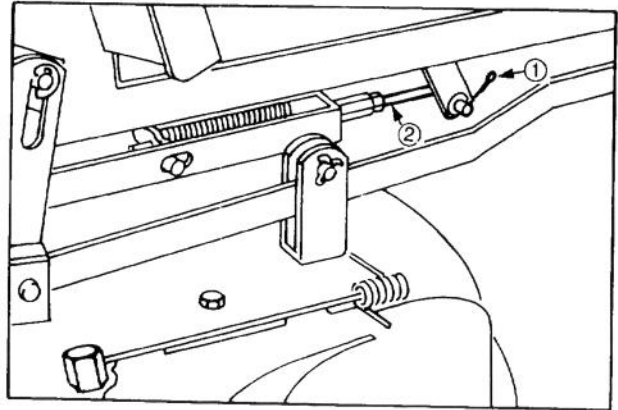

Figure 25
3. Remove cotter pin from Adjustment Rod and pull from Pivot Tube Arm (Fig 25).
4. Replace belt guides for transmission pulley and retighten belt guides on engine pulley. Install belt retainer on idler pulley positioned toward rear as shown (Fig. 25 & 26).